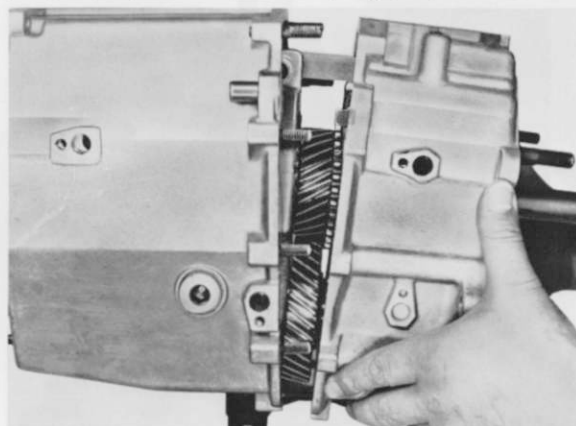

Fig. 14
7. Take off front part of housing (101) (Fig. 14). Pull detent plunger (617) and compression spring (616) from the bore.